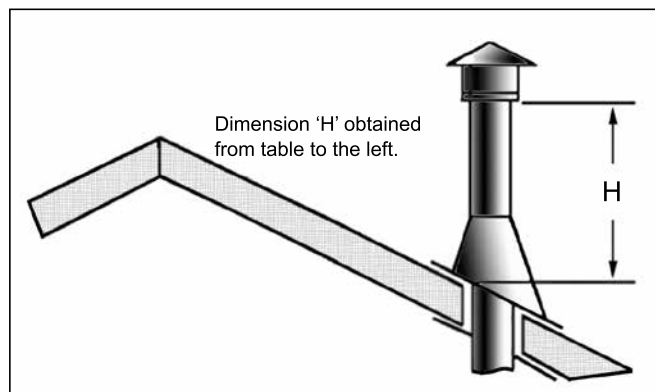

Figure 44: Height of Vertical Termination; Reference Table 5.
- Step 7.** Continue to add Pipe Sections until the height of the Vent Cap meets the minimum building code requirements described by your local codes. In the absence of local codes, make sure the terminal is 2 feet (610mm) above anything within 10 feet (3046mm) of the vent (refer to Figure 44 & Table 5 for clearances for different pitches). Note that for steep roof pitches, the vent height must be increased. In high wind conditions, nearby trees, adjoining rooflines, steep pitched roofs, and other similar factors can result in poor draft, or down-drafting. In these cases, increasing the vent height may solve this problem.
Table 5: Minimum 'H' for Figure 44.